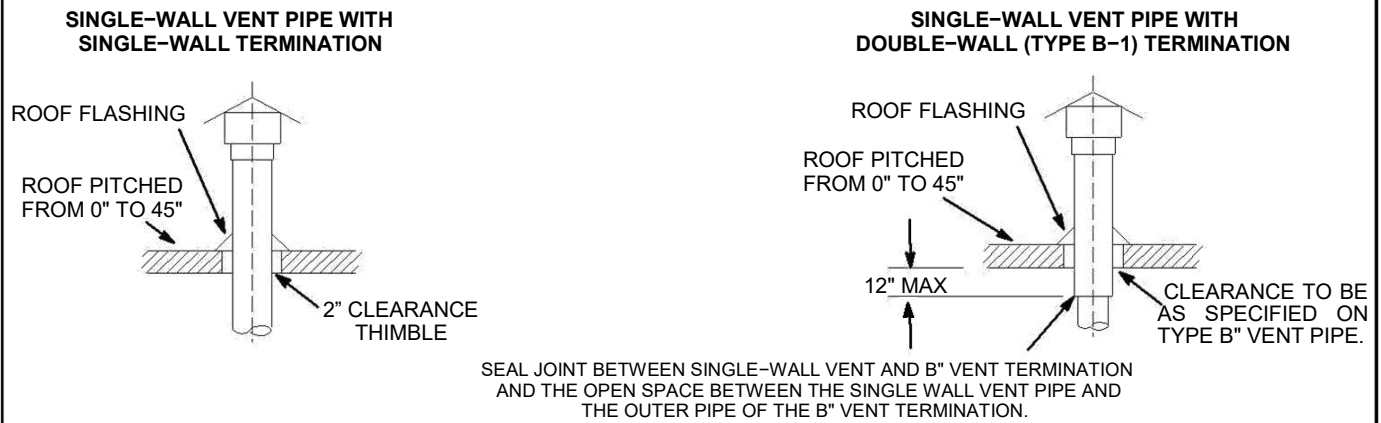

FIGURE 3
- 10 – For upward sloped vent, see figure 3, condensate tee and drain must be installed within the first 5 feet (1.53 m) from the duct heater to protect the appliance.